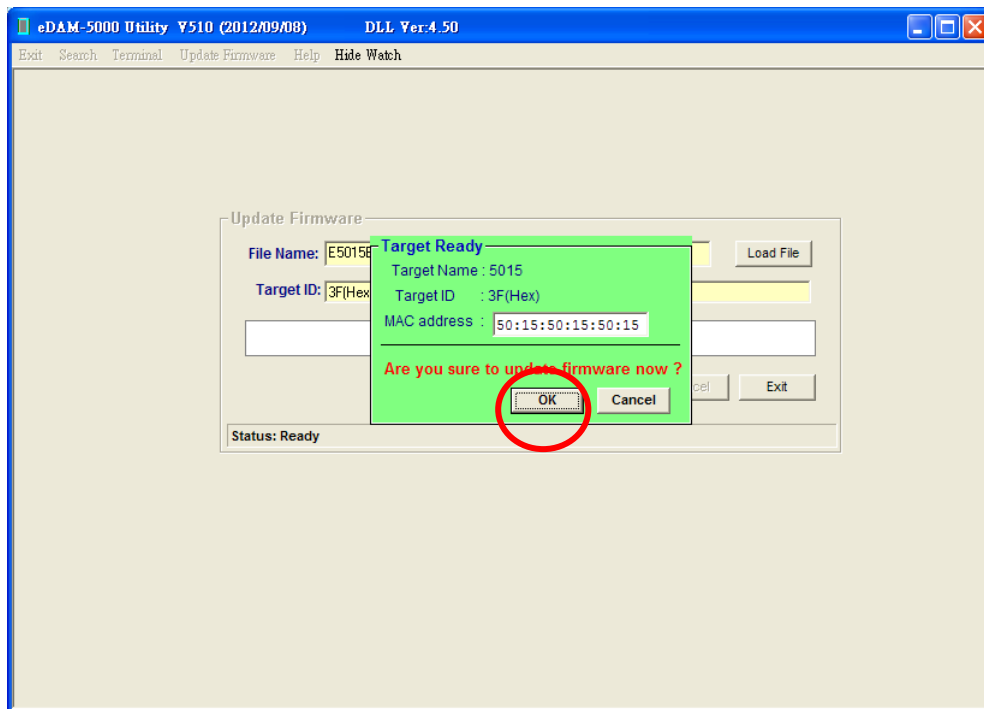

Figure -9
9. If module found. The “Target ready” window pop up (see Figure -9) .Click “OK” button to start